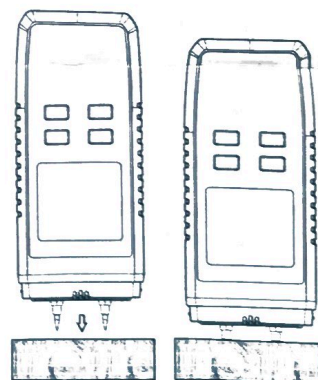

Figure 4
4. Insert the probe vertically into the wood to be measured. The insert depth is shown as Figure 4.